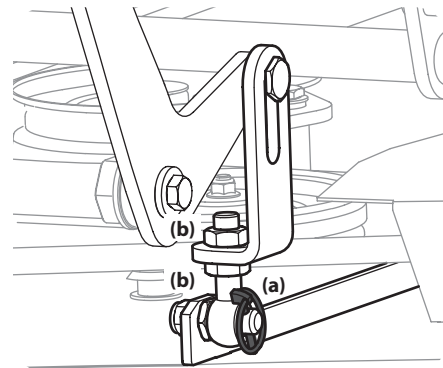

Figure 4-11
3. Adjust the eyebolt (a) at the left front of the deck so that the blade-to-ground height at the right outside blade tip matches that of the left outside blade tip. This is done by loosening the jam nuts (b) on the eyebolt (a) and tightening the upper jam nut (b) to raise the deck and loosening the jam nut (b) to lower the deck. The right outer blade tip height is fixed by the right, front eyebolt (a) so you must adjust the left outer tip to match it. See Figure 4-11.
3. Loosen the jam nuts (b) at the rear left and right of the deck eyebolts (a). Refer to Figure 4-11.
4. Start at the rear right to raise the rear of the deck, tighten the upper jam nut (b) to raise the deck or loosen the upper jam nut (b) to lower the rear of the deck. Refer to Figure 4-11.
5. Adjust the jam nut (b) at the rear left to take the "slack" out of the threaded rod. Refer to Figure 4-11.
6. Tighten both lower jam nuts (b) to secure the deck adjustment. Refer to Figure 4-11.
7. The final adjustment would be to take the "slack" out of the left rear linkage if the rear of the deck was raised by adjusting the jam nuts (b) on the eyebolt (a). Loosen the jam nuts (b) and tighten the upper jam nut (b) to remove "slack". Refer to Figure 4-11.
8. In many cases it will be necessary to adjust deck height using both eyebolt (a) adjustments and pitch adjustment to achieve the correct blade-to-ground heights. If you remember that the front right blade tip adjustment is fixed and you level to that height, adjusting the decks will be simplified. Refer to Figure 4-11.